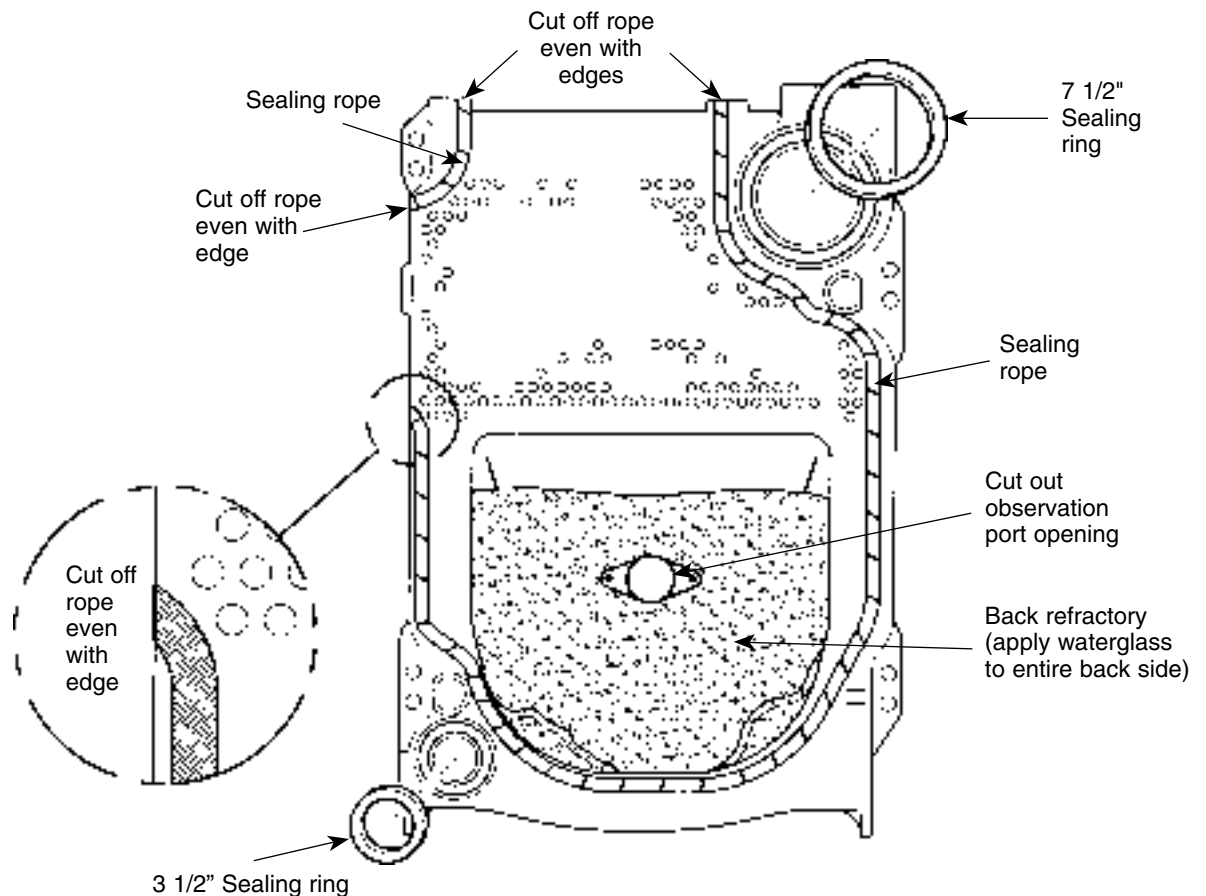

Figure 4
3. Press blanket against back target wall as shown in Figure 4.
1. Apply 1/8" continuous bead of sealing rope adhesive in sealing rope grooves. See Figure 4. Do not get any adhesive on machined port surfaces.
4. Place 7-1/2" and 3-1/2" sealing rings in appropriate port openings. See Figure 4. If sealing ring slips out of groove, stretch ring gently for several seconds, then reposition in groove.